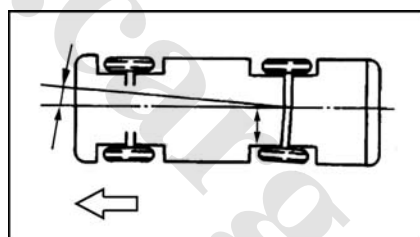

Fig. 2-6
(4) Thrust angle: The front wheels direct or steer the vehicle while the rear wheels control the same rut. The rut is related with the thrust angle which is the angle between the rut of the rear wheels and the center line of the vehicle body (as shown in Fig. 2-6).